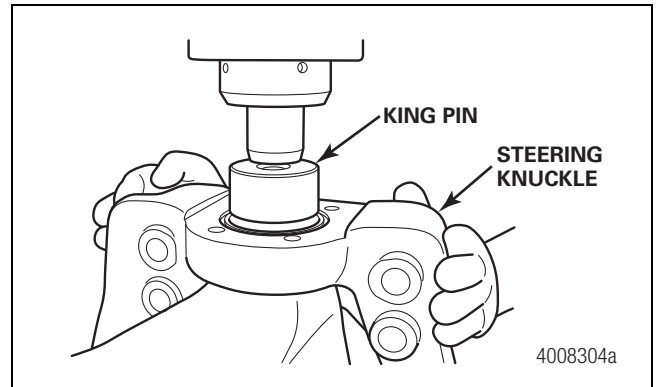

Figure 9.6
8. Use a press and suitable driver to install the king pins through the knuckle and into the housing sockets. The pin is fully seated once it has bottomed out against the housing socket face. Refer to Section 10 and Section 12 for more information. Figure 9.6.